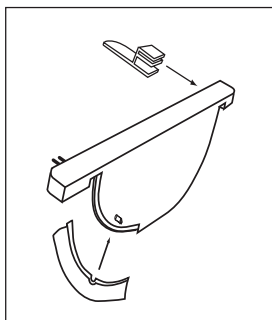

Fig. 1
- Connect the scraper to the baffle (see Fig. 1).
- Slide the baffle clip onto the baffle (see Fig. 1).